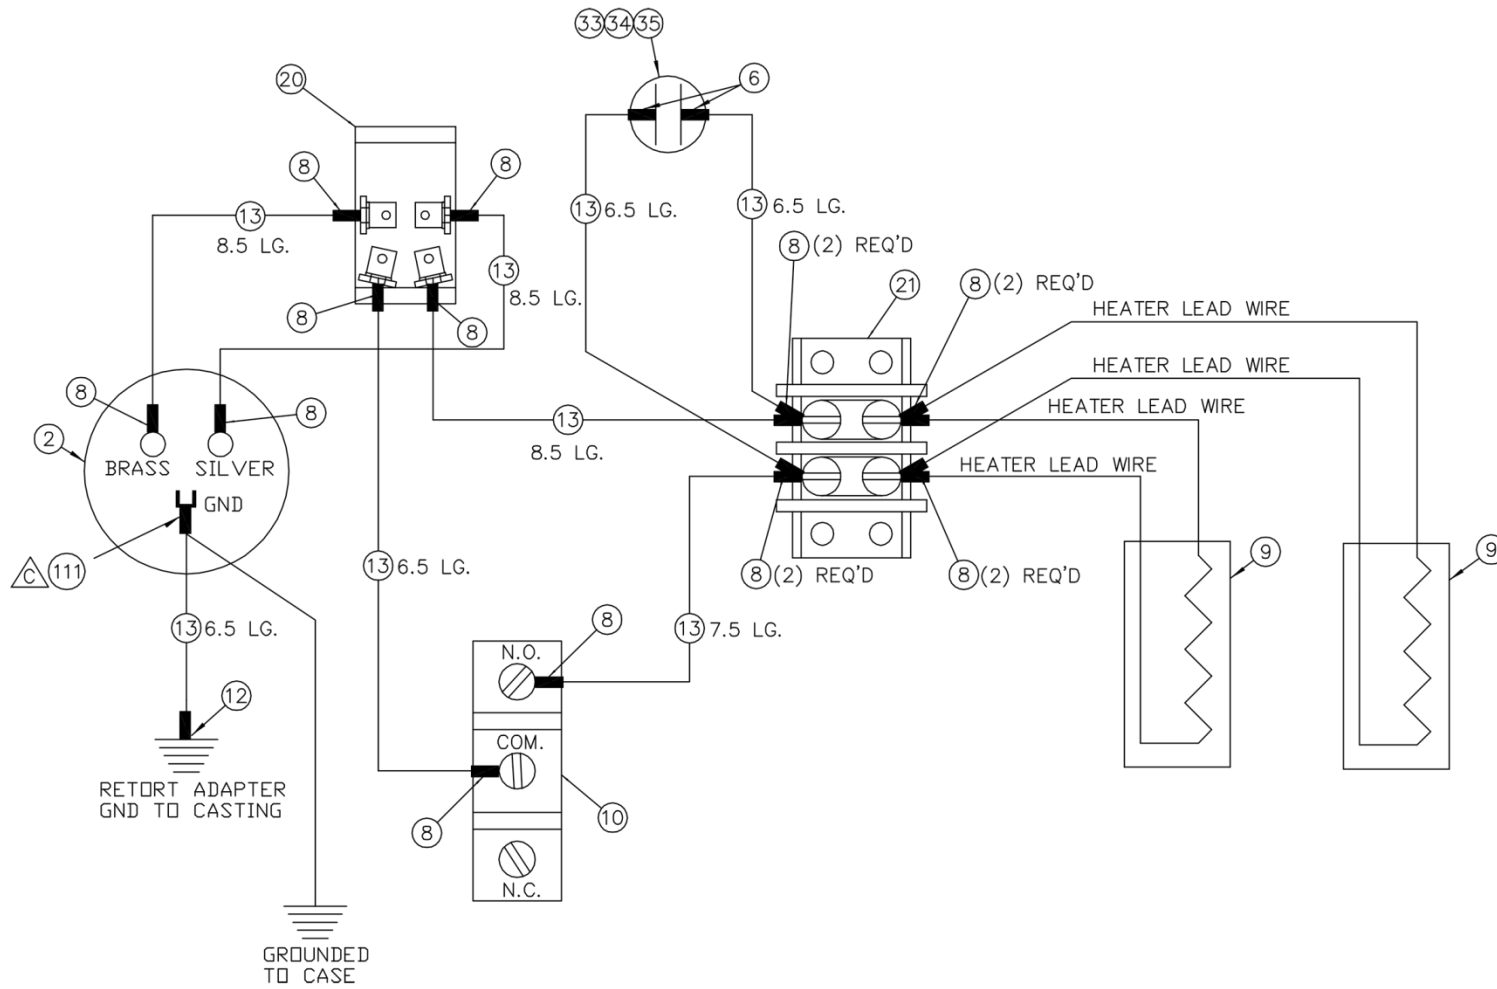
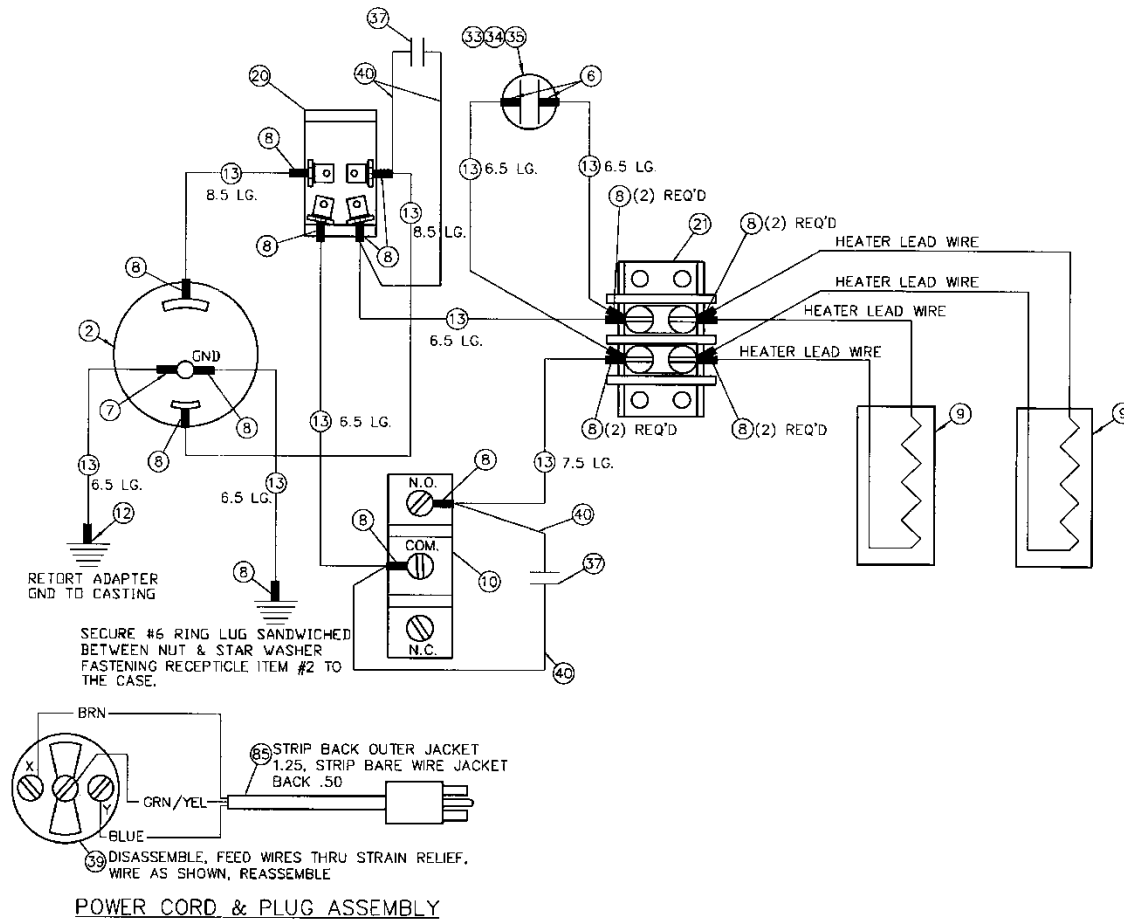

Figure 7-2 Retort Wiring, 115V
Figure 7-3 Retort Wiring, 230V
3. Mount new switch in panel, and replace wires and capacitor (if used) on terminals. Refer to retort wiring diagrams (Figure 7-2 or Figure 7-3).